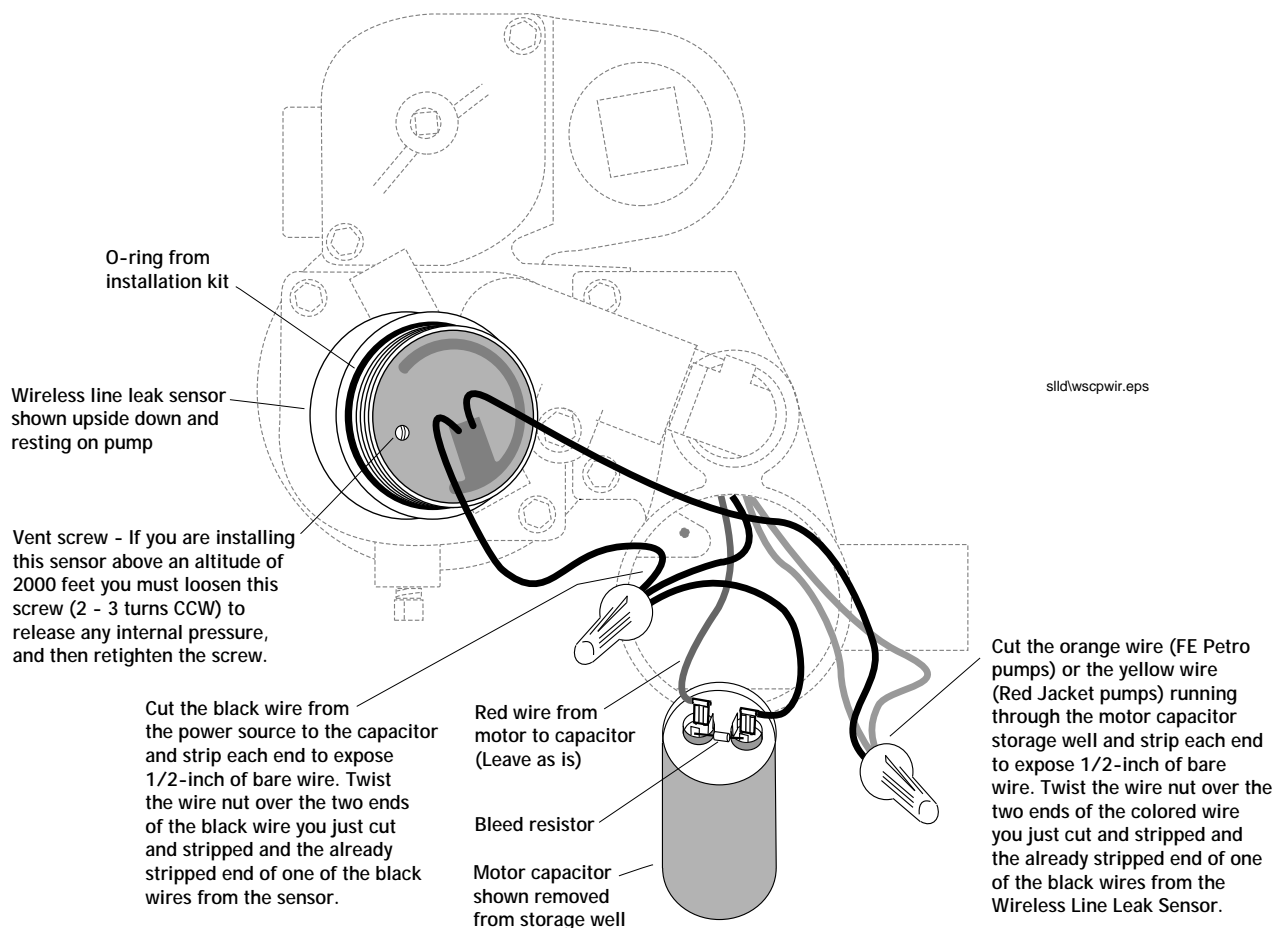

Figure 2. Connecting WPLLD Sensor To Pump
4. Follow the instructions in Figure 2 (above) to connect the WPLLD sensor to the pump.